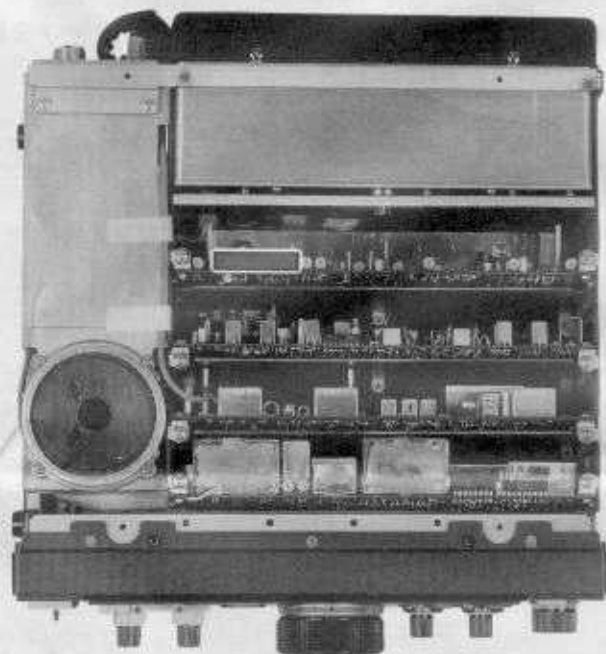

Figure 20
2. Referring to Figures 20 and 21, at the top left side of the rear-most circuit board, locate the two white plastic connectors, one of which is empty, and the other having only a 47-k (yellow-purpul-orange) resistor installed between pins 4 and 5. Remove the resistor, and save it if you expect to remove the FTS-8 later.